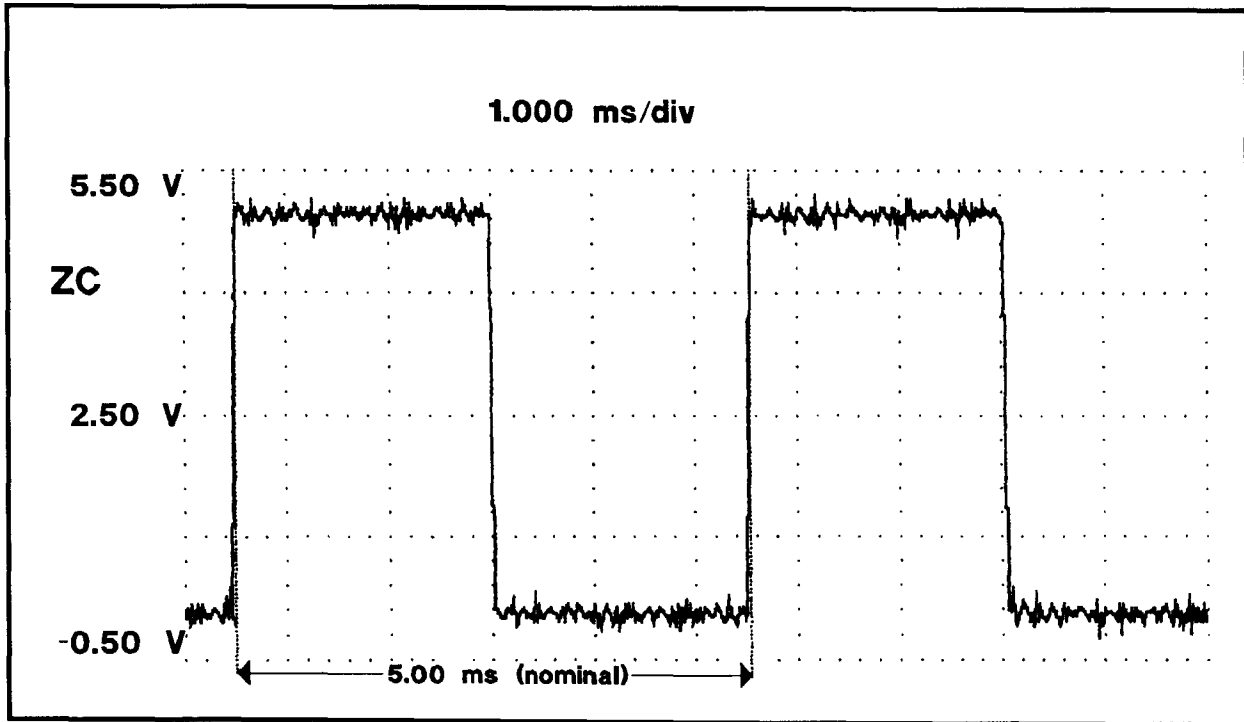

Figure 3-18. ZC Input.
The zero crossing (ZC) signal provides synchronization data to the microcomputer. ZC connects to the microcomputer interrupt input through the interrupt select logic. Observe the ZC input signal at U13-pin 1 (74HC00) and compare to Figure 3-18. If a ZC fault occurs, the microcomputer will be unable to read data. Troubleshoot input buffer U8-pins 11 and 9 (74HC540), and interrupt select logic U13-pin 1 (74HC00). If needed, refer to the Analog PCB troubleshooting section in this manual also.